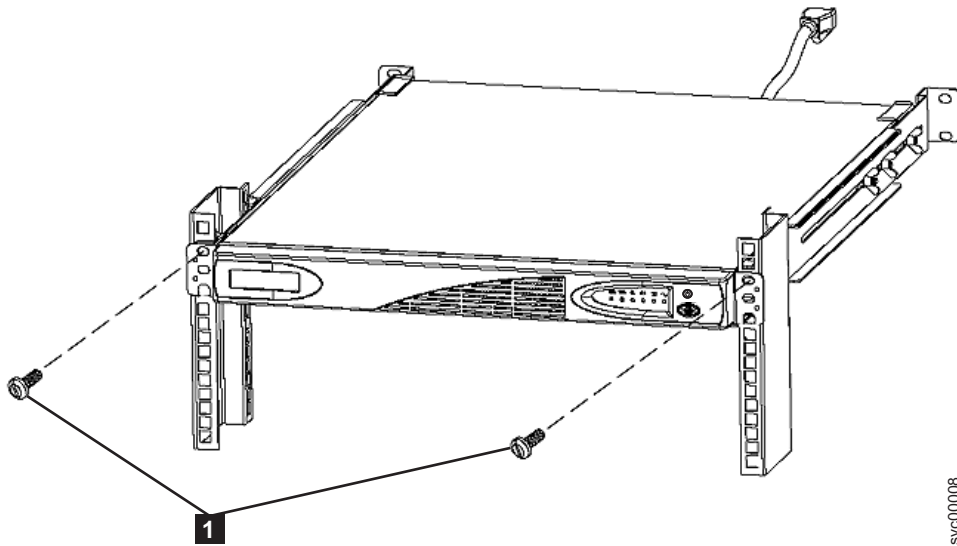

Figure 305. Mounting screws for the 2145 UPS-1U
4. At the front of the 2145 UPS-1U, install the two mounting screws ( **1** in Figure 305 on page 277).